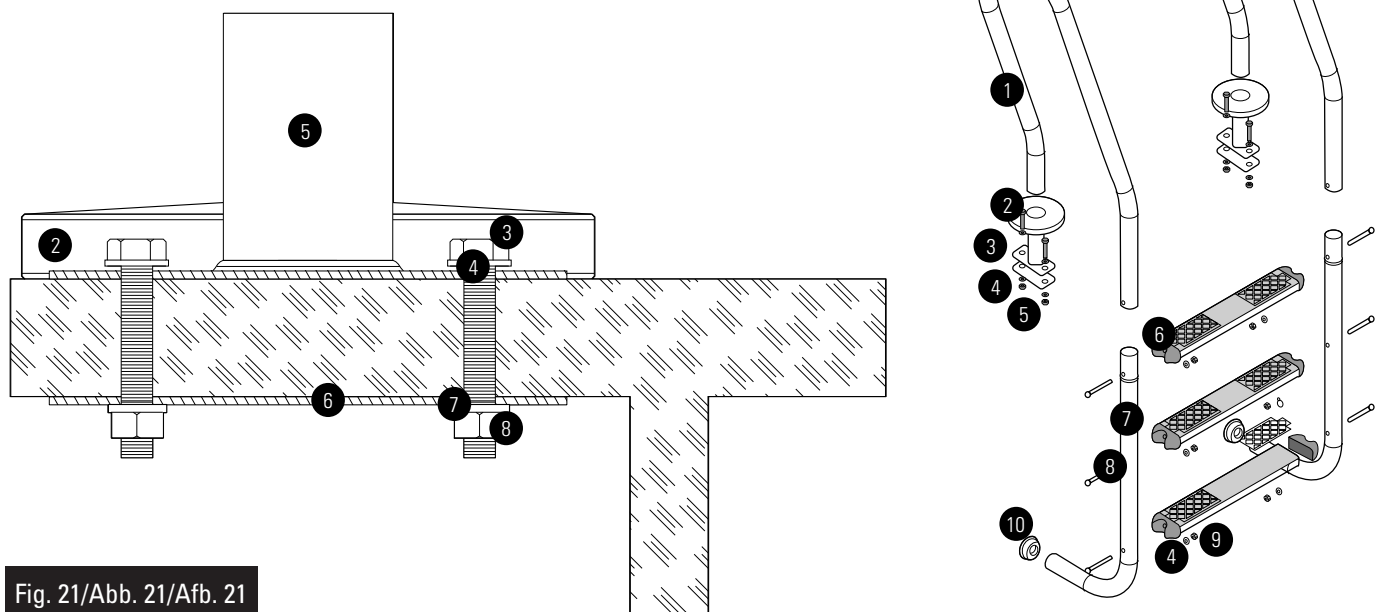

Fig. 21/Abb. 21/Afb. 21
- EN **A.-** Slot in the upper (1) and lower (10) handrails, fasten them with the steps (9) and the steps to the handrails using screws (11), nuts (8) and washers (7). (Fig.21)
- B.- Assemble the end pieces (12) of the handrail so that the ladder cannot damage the pool.